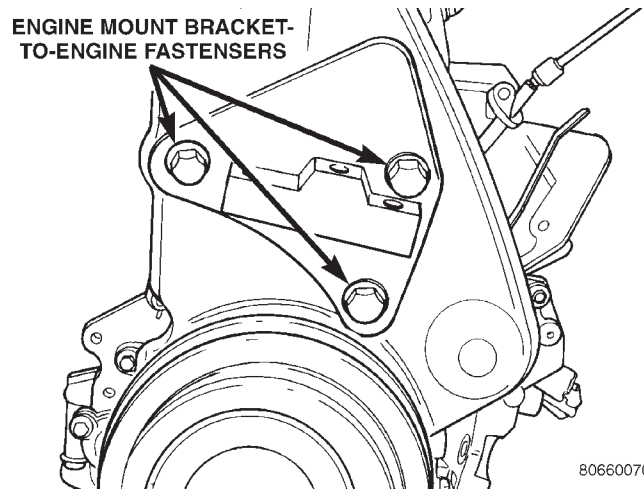

Fig. 55 Right Engine Mount Bracket
- (8) Remove right engine mount bracket (Fig. 55).